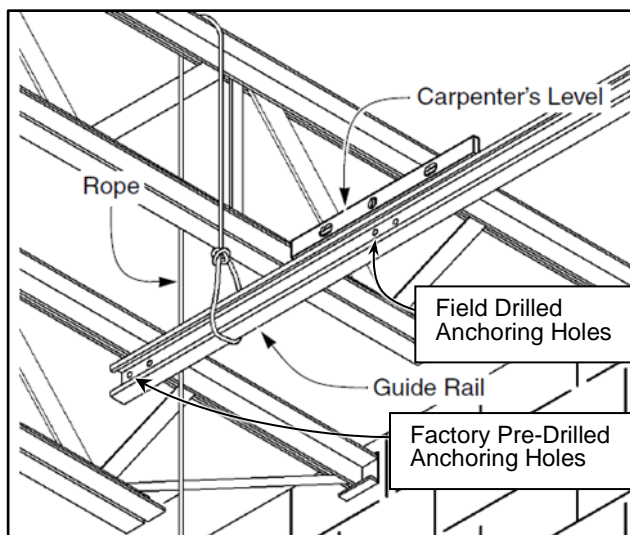

Figure 69
- Support the end of the guide rail with rope or a mechanical device. Place a carpenter's level on top of the guide rail and secure the guide rail in a level position. Must be provided by others. (See Figure 69)